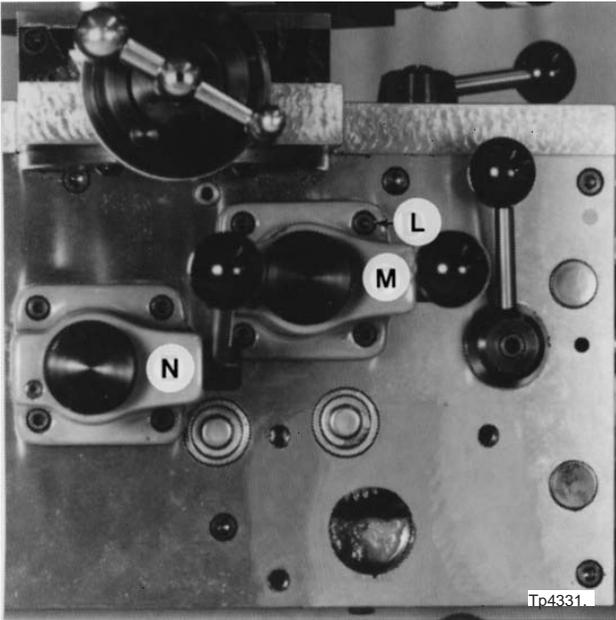

Figure 1.4 - Carriage Clutch Housing
9. Remove eight screws "L", Figure 1.4, and clutch housings "M" and "N".